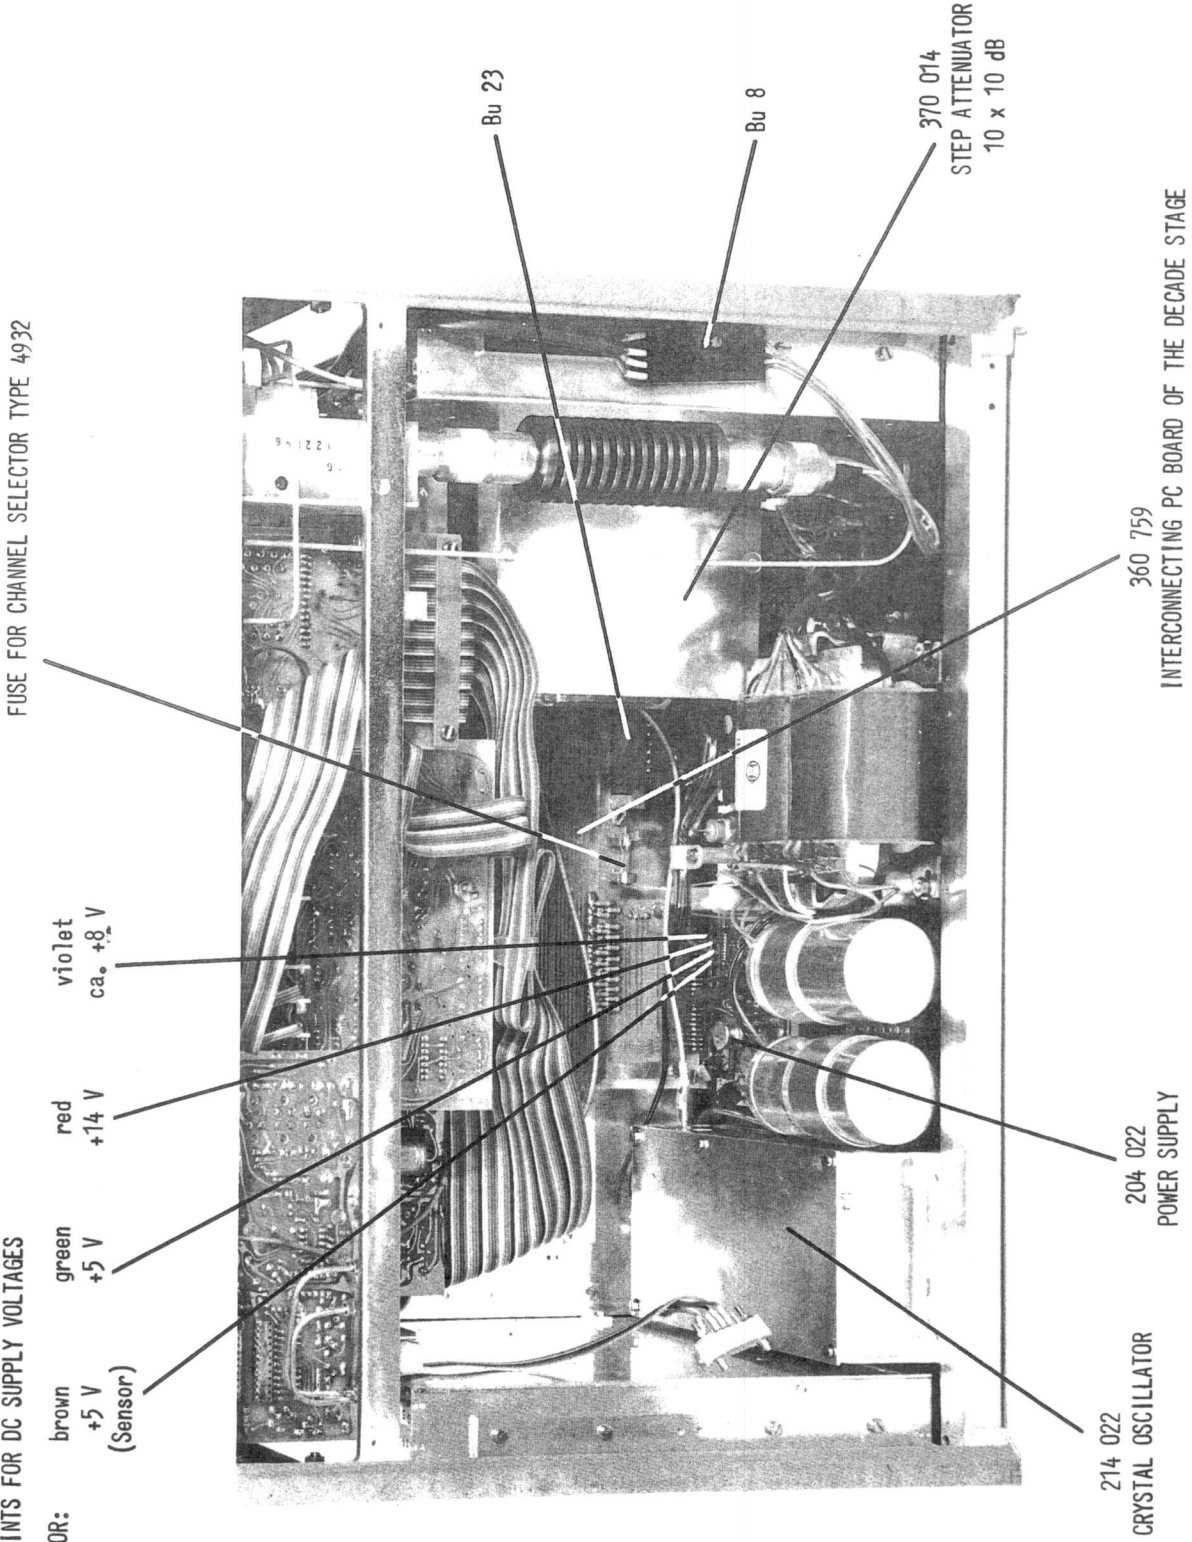

FIG. 3: BOTTOM VIEW
2. The Power Supply 204 022 is located directly on the inside of the instrument rear panel (fig. 3).
Use test points recommended in fig. 3 for checking supply voltages. These test points as well as the fuse for the power supply of the Channel Selector Type 4932 are accessible subsequent to removal of the instrument bottom cover. To facilitate repair work on the Power Supply the instrument rear panel can be hinged open after having removed the 4 Phillips head screws connecting the bottom and top frame.
Should the Power Supply need to be operated in the hinged open position the connector St 8 (to mains switch fig. 3) must be disconnected and a two pole short-circuiting link (HNK 898 030) used instead of the mains switch.
- ⑤ Disconnect jack Bu 8 (see also fig. 3)
- ⑥ Disconnect two cable clamps
- ⑦ Disconnect cable from jack Bu 13
- ⑧ Remove 4 x 2 slotted head screws on case frame
7. Crystal Stage 214 022 (fig. 3)
8. 10 x 10 dB Step Attenuator 370 014 (fig. 3)